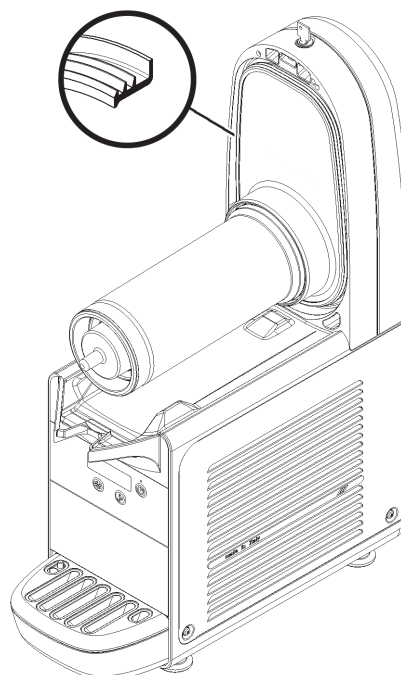

figure 18
N.B. the rim with the greater diameter must be rested on the rear wall (see figure 18).